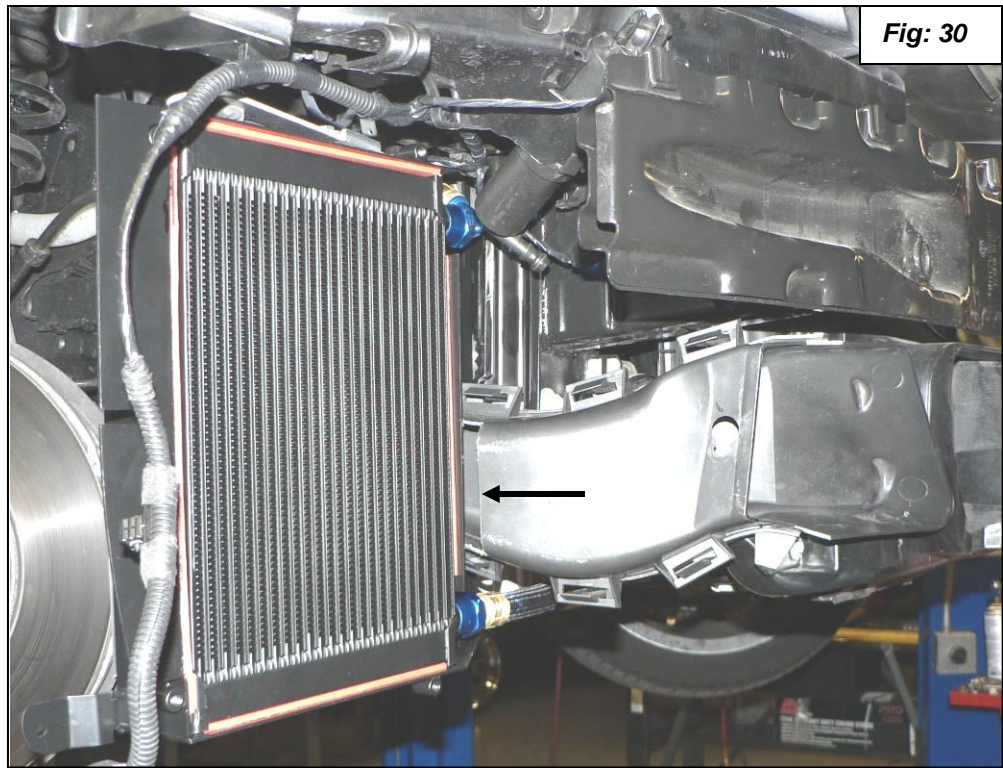

Fig: 30
38. Install the modified brake duct and check for clearance. With the oil cooler in a relaxed position you should have about 1/2" clearance as shown in figure 30.